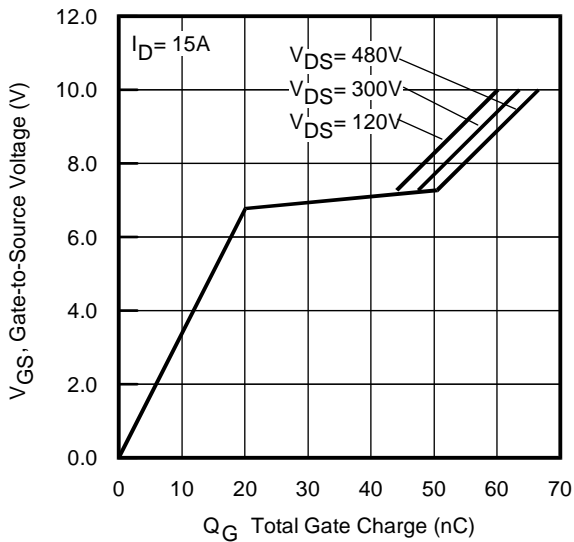

Fig 7. Typical Gate Charge vs. Gate-to-Source Voltage
| Q_g | Total Gate Charge | — | — | 100 | nC | $I_D = 15A$ $V_{DS} = 480V$ $V_{GS} = 10V$, See Fig. 7 & 15 ④ |